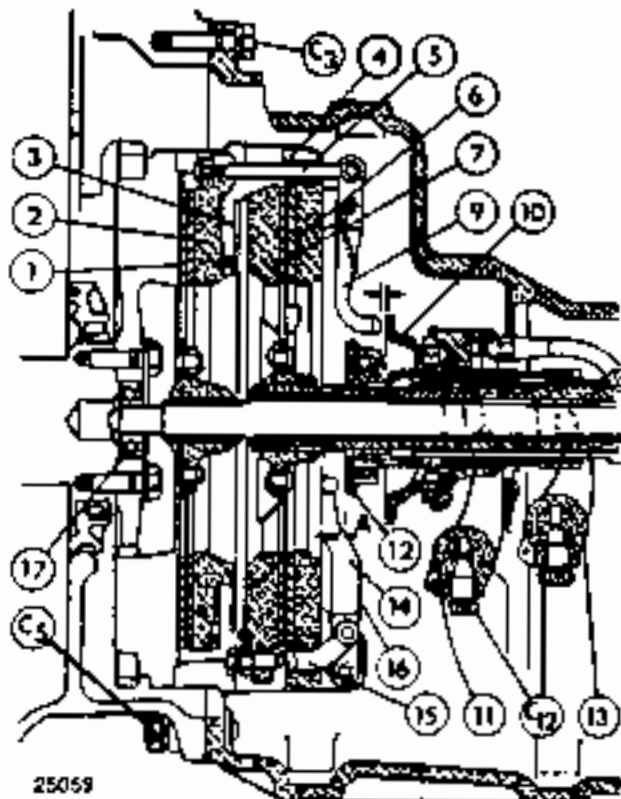

FIG. B.1/17 CROSS SECTION OF THE 11" CLUTCH
- gradually cross-loosen the nuts (8, Fig. B.1/15) and then remove the P.T.O. clutch pressure plate (2) and the dished spring (3, Fig. B.1/12).
- remove the pressure plate (7) with adjusting screws (19) and transmission disc (6);
- remove the split pins (22, Fig. B.1/16) and remove the pins (21) to remove the transmission clutch release levers (14) with push rods and P.T.O. release levers (9), with rods attached.
FIG. B.1/18 FITTING (REMOVING) THE P.T.O. CLUTCH ENGAGEMENT DISHED SPRING (3) AND PRESSURE PLATE (2) (Arrows indicate alignment of dowel pins with respective spring locations). 6 and 7, Transmission clutch disc and pressure plate; 19, Transmission clutch release lever adjusting screws; 20, Screw locknuts (19).
Check wear of the friction linings of discs (1 and 6, Fig. B.1/17) vs. tabulated limits. If the discs are impregnated with oil we recommend replacing them.
Examine the condition of the friction surfaces on the engine flywheel, pressure plates (2 and 7, Fig. B.1/17) and cover (4). If necessary, these surfaces can be machined to a maximum depth of .008" (0.2 mm). In case the inner side of clutch cover (4) is re-cut, also the mating surface with the flywheel must be refaced in order to restore the dimension mentioned above.
Check the return springs (16, Fig. B.1/15).